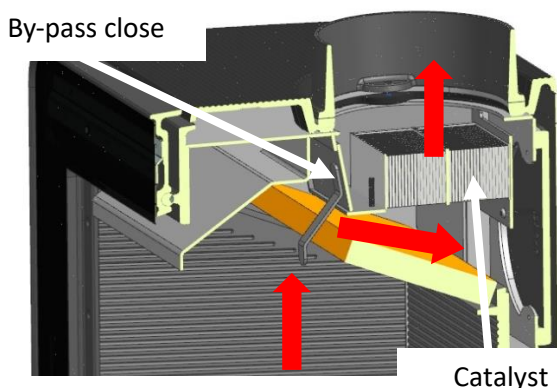

Fig. 21
5. When the fire is well established, slide the Burn Type Lever to the top for normal operation with wood ("A"). Then adjust the Burn Rate Knob to the desired heat output, either manually or with the remote control. Close the by-pass of the TruHybrid System, to allow the flue gases pass through the catalyst (Fig. 21) to achieve the maximum efficiency of the stove. **Protect your hands for such operation.** In addition, if you have an optional draft control (fig. 10), you can regulate combustion by operating its control.